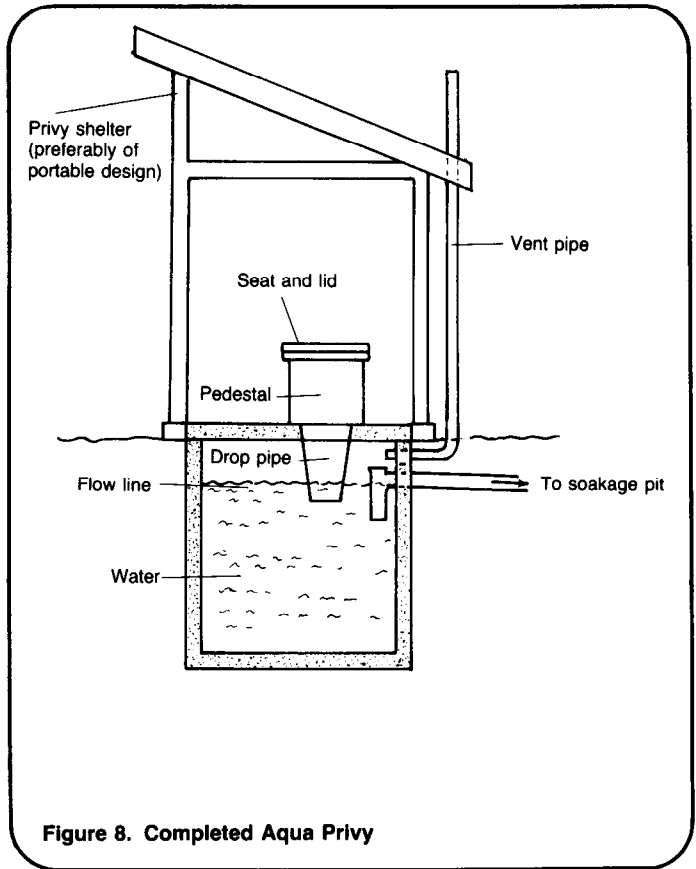

Figure 8. Completed Aqua Privy
21. Remove the cover material and forms from the slab. Mortar the drop-pipe in place and set the slab over the vault. The drop-pipe should enter the water to a depth of at least 100mm. Waterproof the edges of the slab where they meet the vault. Use tar or an equivalent, not mortar, because the slab will eventually have to be removed. See Figure 8.
25. Attach the remaining sections of vent pipe to the rear wall or roof of the shelter. See Figure 8.